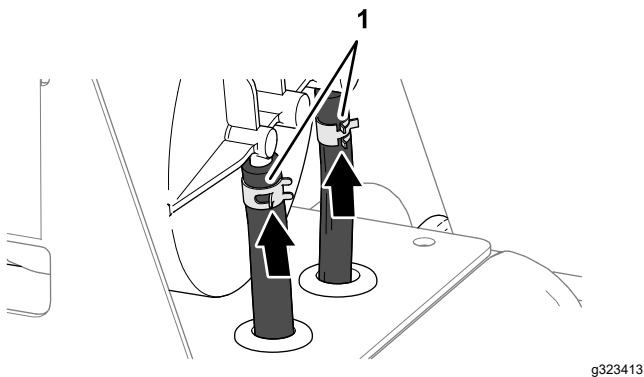

Figure 79
4. Secure the hoses to the fittings with the clamps (Figure 79)